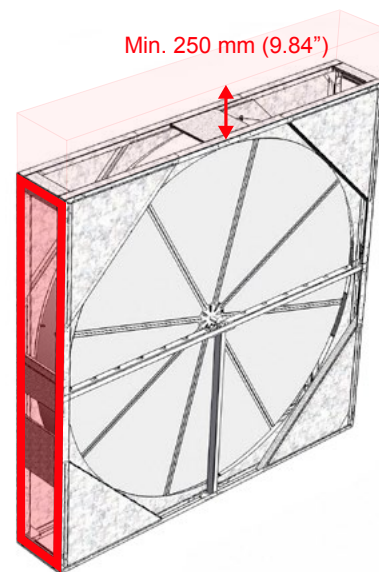

Figure 3. Model EQ gable and top clearance.
- After the Model EQ heat exchanger is built into the AHU, the gable where the motor is fitted must be accessible to secure maintenance. (See Figure 3.)
- There must be a clearance of minimum 250 mm (9.84") exceeding the casing height, to be able to mount the top/upper half of the casing. (See Figure 3.)